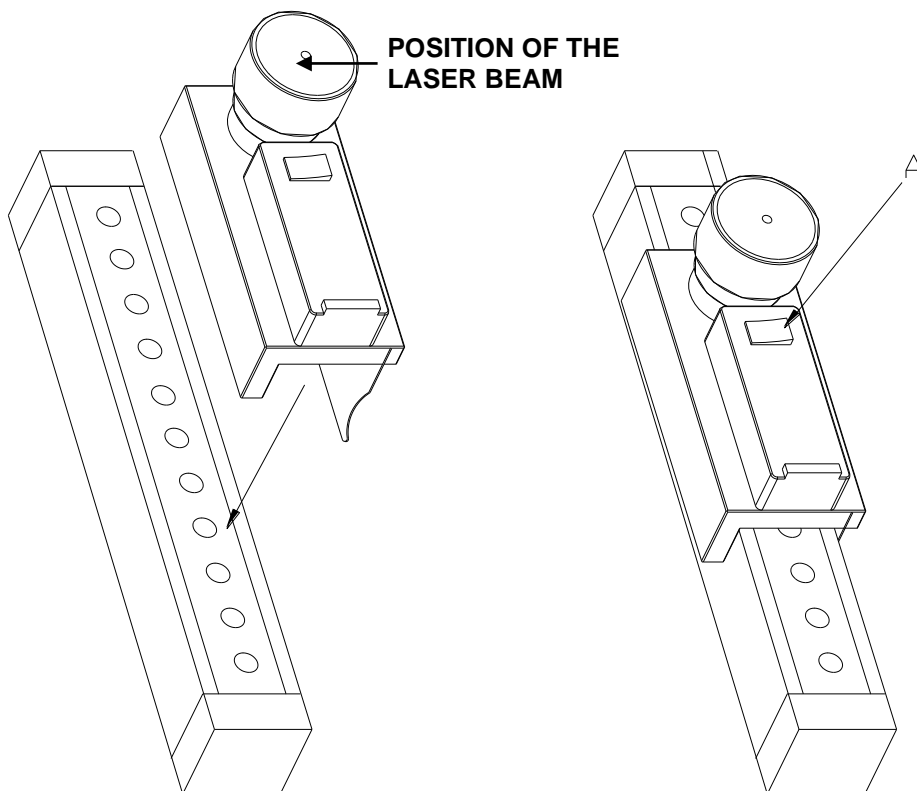

Figure 1
- Hook the LAD4 to the emitter along its vertical axis on the side of the optical window (**see fig. 1**). The correct coupling insures a following good work.
- Power on the LAD4 (**see fig.1, detail A**).
**➔ When repeating the test, never turn the LAD4 upside down: the laser beam must always be positioned as shown in Figure 1.**